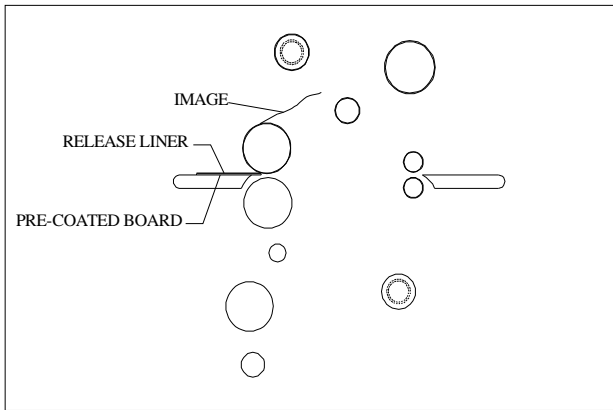

Figure 31
3. Do not stop once you have started the mounting process through the machine. (Fig. 31)
Note: This application can also be performed from the front operating position. Reference Fig. 31 for illustration.